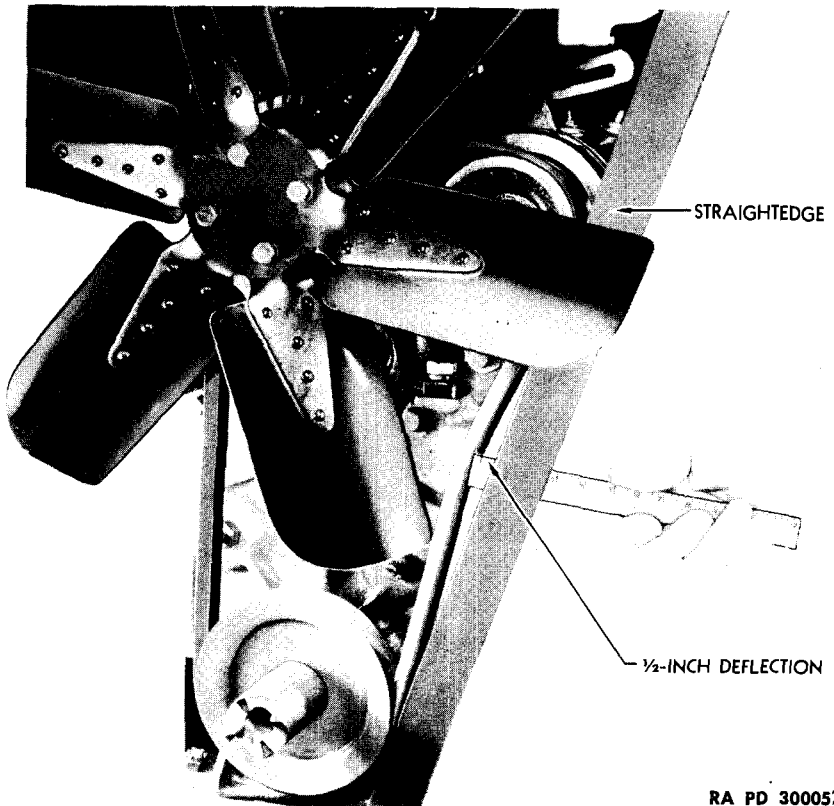
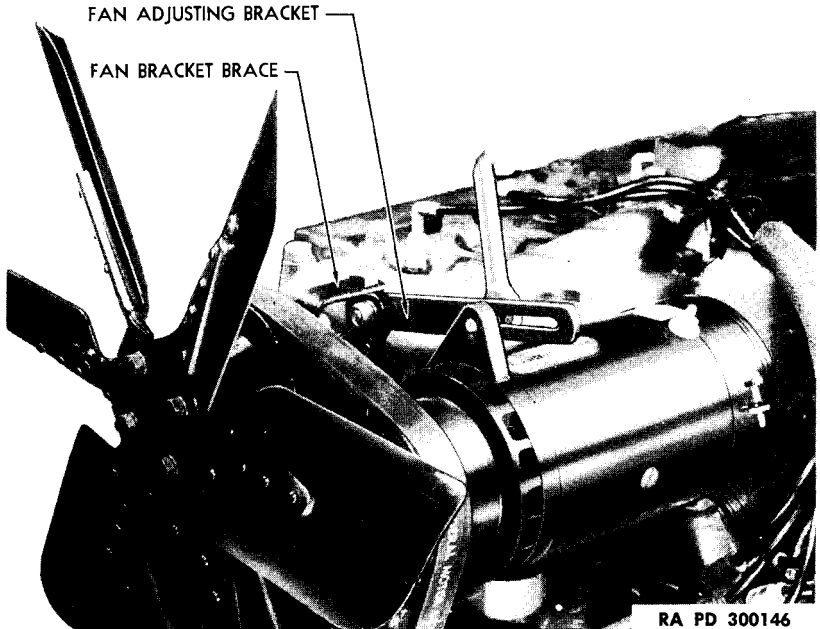

Figure 54—Measuring Fan Belt Deflection
Figure 55—Adjusting Fan Belt Tension
(1) **FAN BELT ADJUSTMENT.** Loosen two generator to mounting bracket bolt nuts and then loosen generator to adjusting arm bolt (fig. 55). Move generator toward, or away from, engine as necessary to obtain correct belt tension. A light pressure on belt at a point midway between crankshaft and fan pulley must cause a $\frac{1}{2}$ - to $\frac{3}{4}$ -inch deflection (fig. 54). Do not adjust belt too tight. Tighten generator to adjusting arm bolt and then tighten the two generator to mounting bracket bolt nuts.